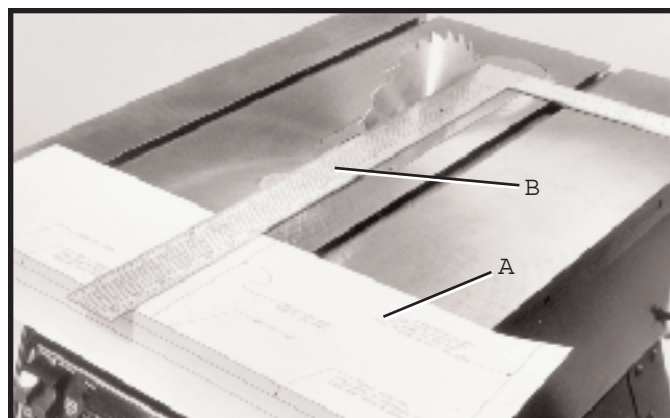

Fig. 19
6. Position a straight edge (B) Fig. 19, along the right side of the saw blade with one end of the straight edge extending out to the front of the saw table over the template (A) as shown.